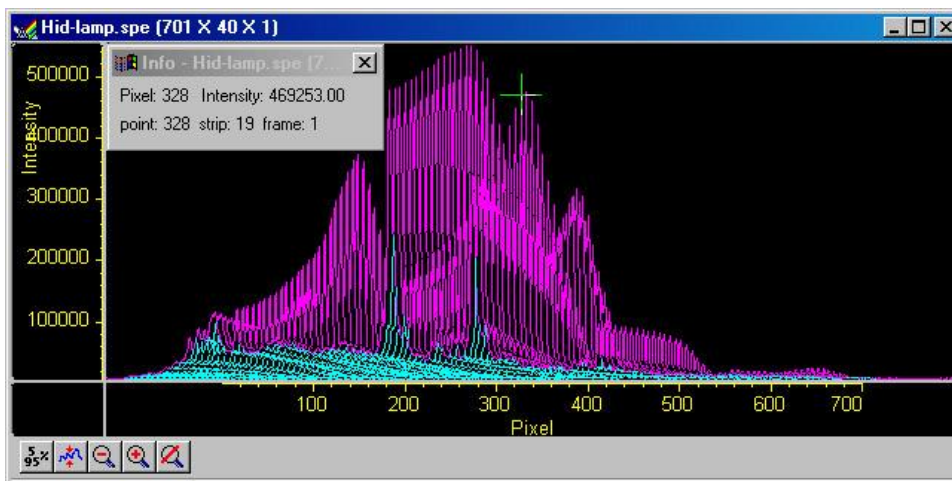

Figure 84. 3D Plot with Hidden Surfaces
2. Click on **OK**. The data should be redisplayed as shown in Figure 84, with the hidden surface clearly visible.